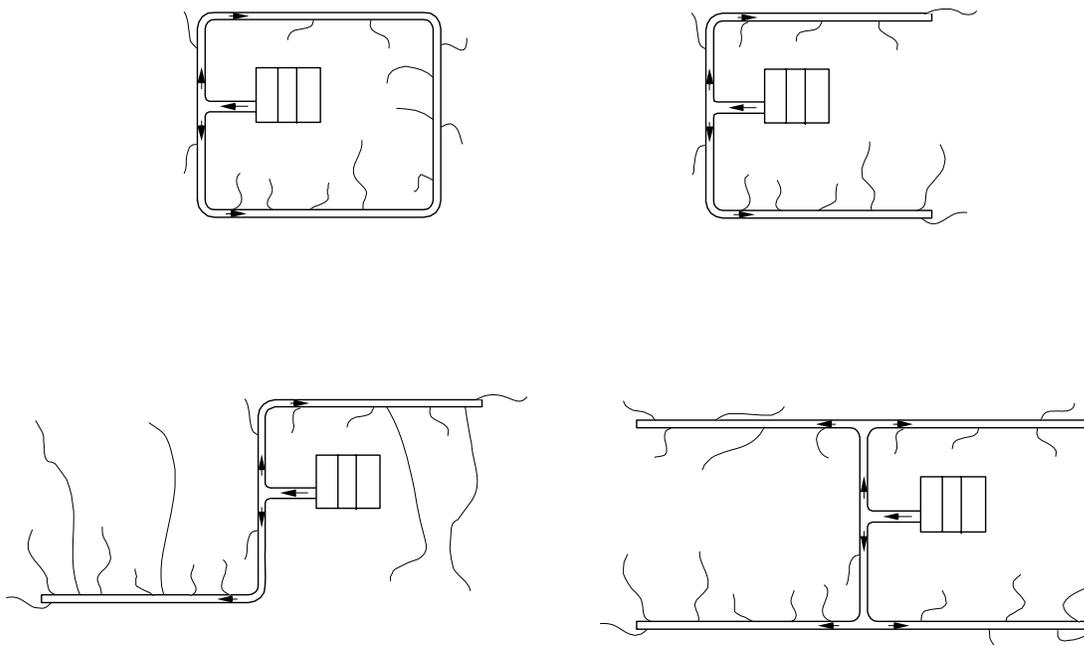

Figure 3. Typical System Layouts
it imposes a much higher-pressure drop. Suggested layouts using tees are shown in Figure 3. It is best to install the tee or elbow 48-inches from the unit although 24-inches is acceptable in tight places.
5. **Shotgun Systems:** Where a shotgun system (see Figure 3) provides a better layout for the M4860 unit, use 10-inch insulated metal or fiberglass duct for the first 40% of the airflow, then reduce to 9-inch for the remaining 60%, if desired. For smaller units, 9-inch may be run the entire length.